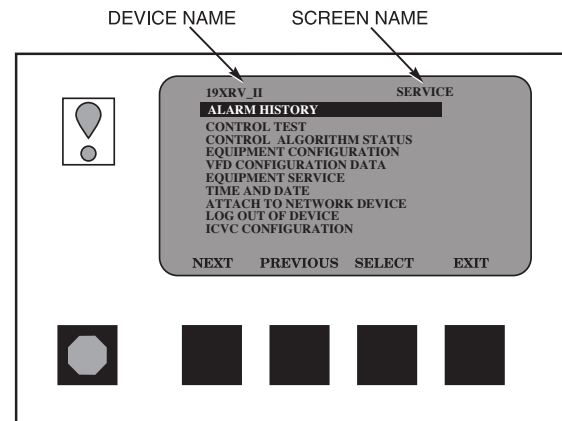

Fig. 15 — ICVC Service Screen
- If a screen other than the default screen is displayed on the ICVC, the name of that screen is in the top line (Fig. 15).